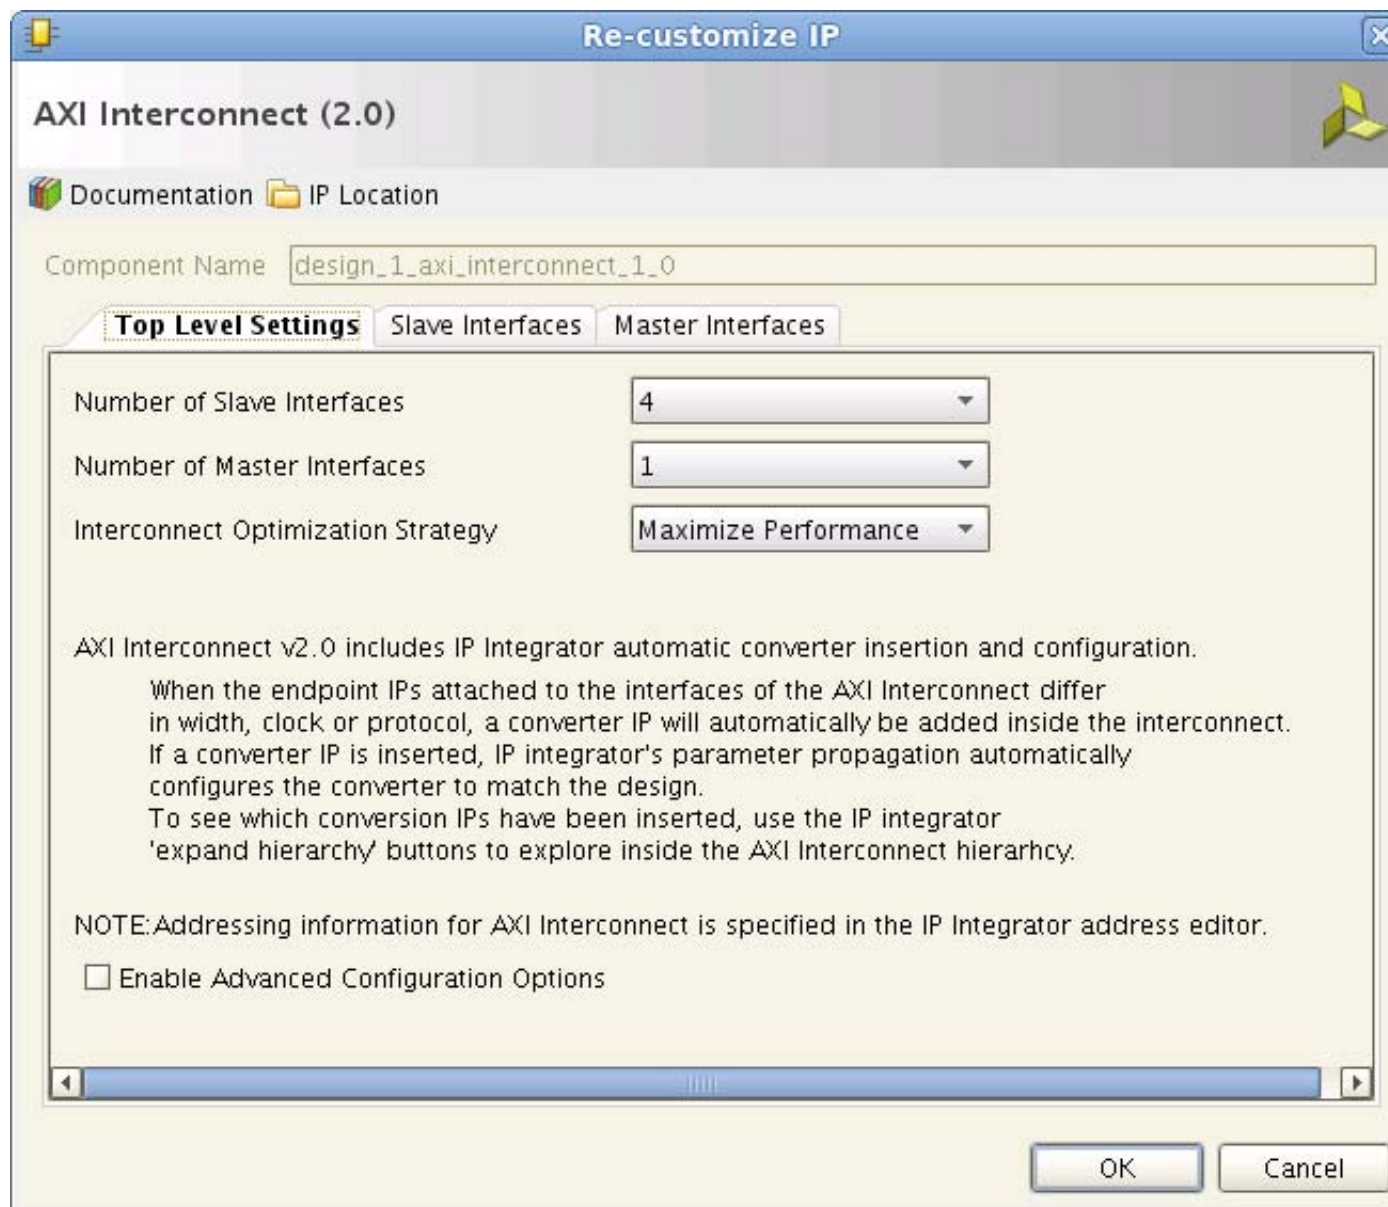

Figure 42: AXI Interconnect Global Settings
4. Use the following settings for this configuration (Figure 42):